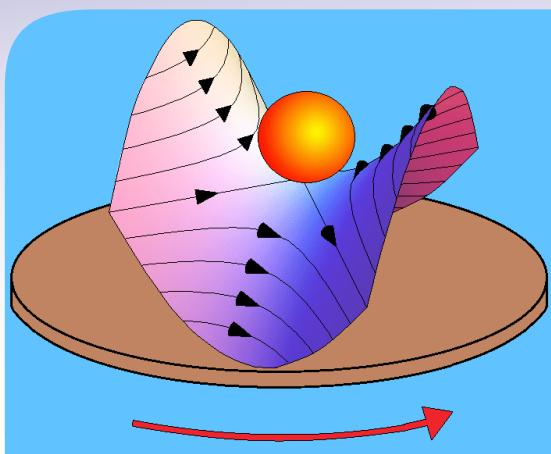

Figure 4: Effective potential of a 4-pole ion trap
to the what we observe when we rub a plastic ruler with fur and use it to ‘attract’ bits of paper. The difference is that, in DFT, the interactions are based on quantum mechanics and are more complex. Once we get sufficient inputs, CALPHAD can give us a Gibbs energy function for all of the phases present through a careful optimisation exercise with some constraints included. After this, thermodynamics allows us to calculate the ‘equilibrium’ by minimising the optimised Gibbs energy expression. This minimisation can be thought to be a competition among the different phases to reach the lowest Gibbs energy. We can expect more than one winner out of this competition because thermodynamics allows multiple phases to reach a stable state that has a Gibbs energy lower than what the individual phases can reach on their own. At the end of this minimisation, we have information about the best combination of phases at a given state. This information is sufficient to construct the phase diagrams. As with any computational technique, some experiments are needed to corroborate the results obtained. Figure 4 is the phase diagram of Zr-N, is an example of such a comparison.
But it is almost impossible to keep a charge at rest using an electric field. They are easily attracted or repelled out of their position by other charges or forces in their vicinity. Well, then how does this trap "trap" ions? The schematic, given in Figure 4, shows how it works. The rods are supplied with an electric potential that varies with time periodically, in such a fashion that alternative rods have a constant offset in their potential at any time, which effectively places the ion in a rotating saddle as shown. In simple terms, when the negative charge sees positive potential in a rod and moves towards it, the potential is switched to the next rod. This makes the charge to change its direction and by the time the change occurs, it is again switched to the subsequent rod. By timing this sequence precisely, the charge is effectively trapped in a region around the center of the cylindrical chamber. This tantalizing application of electric potential - the pushing and pulling of the poor ion towards a different rod at subsequent instances so that the net displacement of it is zero, gives us the time required to conduct experiments on it.
4. Figure 4 : Comparison of calculated Zr-N phase diagram and experimental data. Credits : Prof. Hari